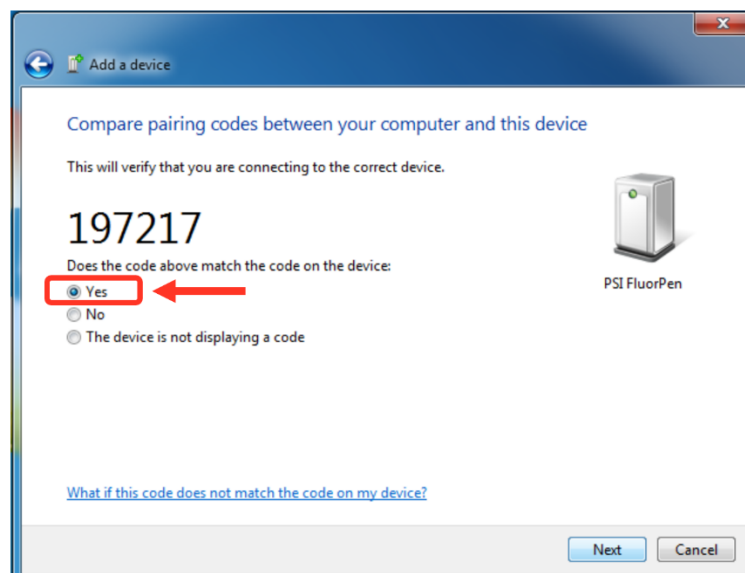

Fig. 9 Verifying of the BT pairing.
- Select: Yes (Fig. 9). **Please note that the PlantPen device does not display the verification number. The verification code is not important for the BT connection.**